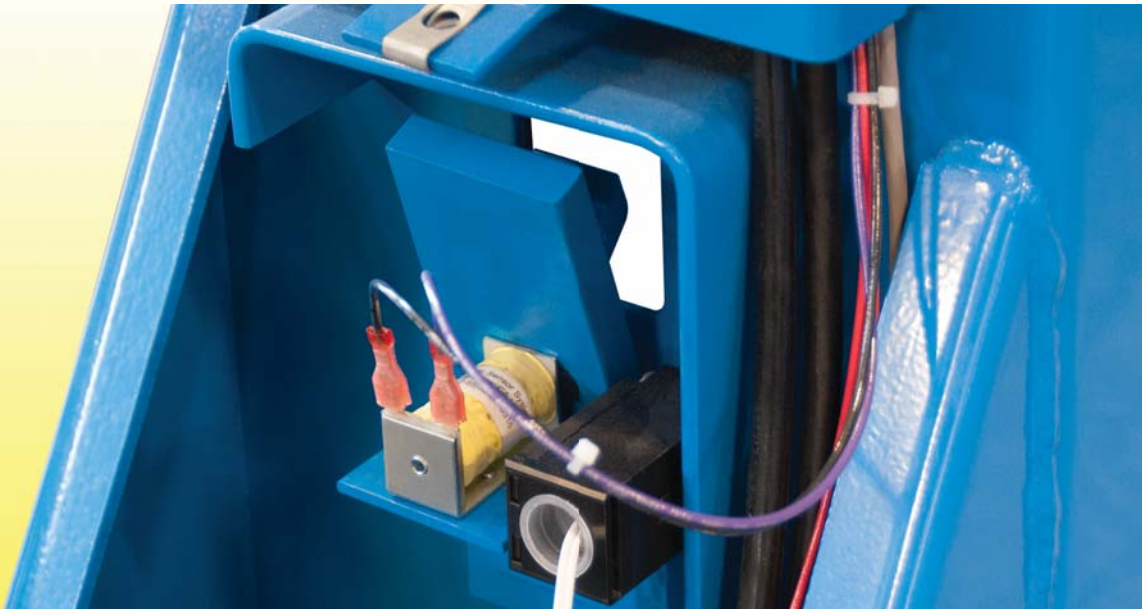

Figure 10 Safety Latch
6. While standing at the rear of the lift, depress the DOWN button and then release. The safety latch shown below in Figure 10, should open and close. Repeat depressing and releasing the DOWN button several times while watching the operation of the latch. The latch should freely open and close. If the safety latch does not function properly, it should be immediately repaired by a qualified service person.